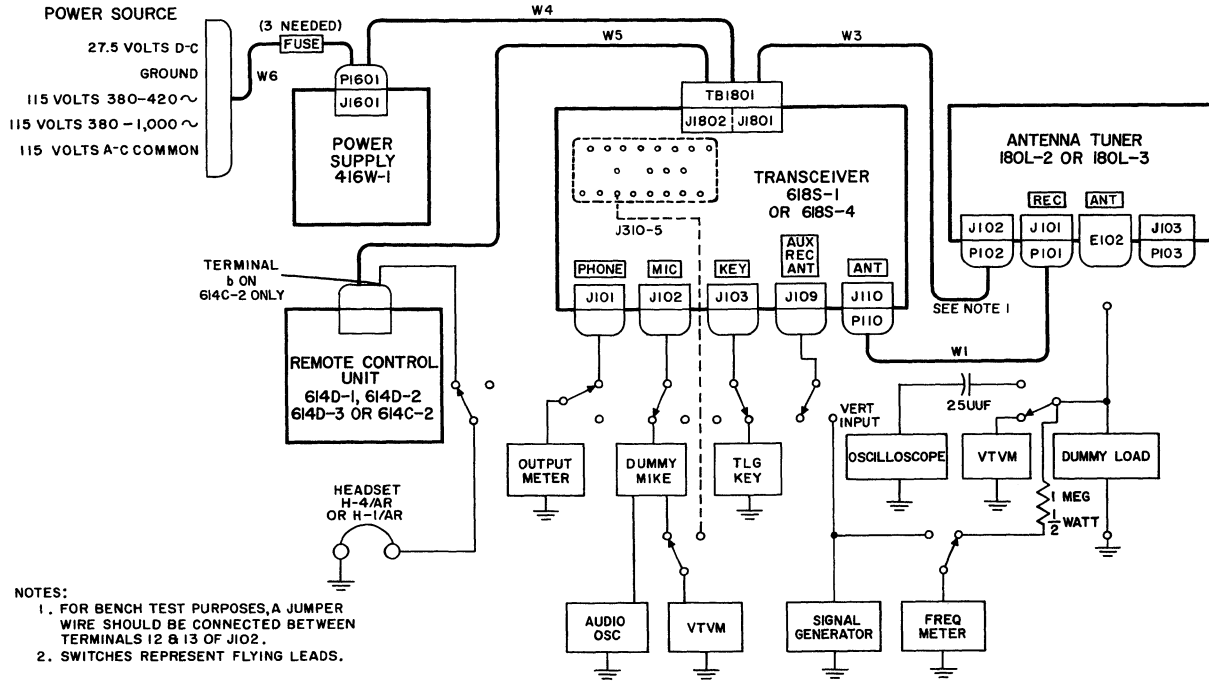

Figure 2-2. Transceiver 618S-1, Bench Test Setup
Connect all components to be tested to a test bench harness which is wired for use with one of the Remote Control Units. A typical test bench setup for Transceiver 618S-1 and its associated system components is illustrated by block diagram in figure 2-2. Table 5-1 lists test equipment required for testing of Transceiver 618S-1. Perform the following operations:
- d. Connect the dummy microphone, audio oscillator, and vtvm between J102 and ground, as illustrated in figure 2-2.
b. Connect the dummy load, vtvm, the 1-megohm resistor, and frequency meter to E102 as illustrated in figure 2-2. All other test equipment should be disconnected at this time.
a. Connect the dummy microphone circuit to J102 on the front panel of Transceiver 618S-1. Refer to figures 2-2 and 2-3.